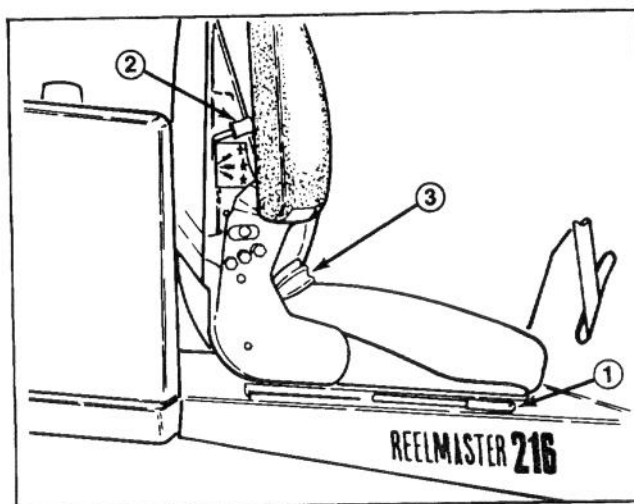

Figure 26
**Deluxe Seat Adjustments** (Fig. 26) — Fore and Aft Adjustment — Move lever on right side of seat outward, slide seat to desired position and release lever to lock seat into position.